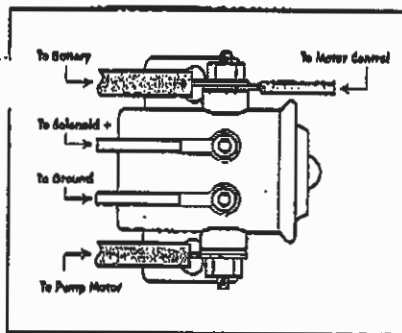

Figure 2b
2. Check the motor control hot lead connection that is attached to the pump motor solenoid. This connection is located on the same terminal as the battery cable from the vehicle battery. All power for the control system is derived from this connection. The "Level Best 2000" control system requires a minimum of 12 volts for proper operation. (fig. 2b)